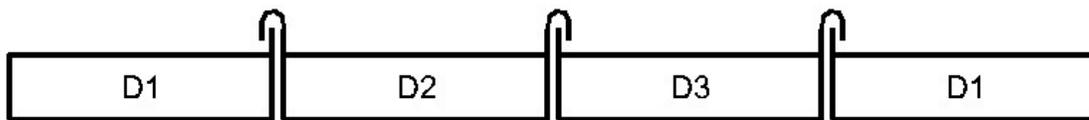

FIG. 3
- A. Position the “D2” and “D3” (roof) middle panels (Fig. 3) between the “D1” (roof) end panels and set them in place. On the inside, place Inner Roof Connection Brackets under the “D#-D#” 2x6 panel connections. Fasten the Inner Roof Connection Brackets into place (Fig. 1E) using hex headed screws. Note that one of the Inner Roof Connection Brackets has tabs that will connect to the “F” (support) posts in the middle later.